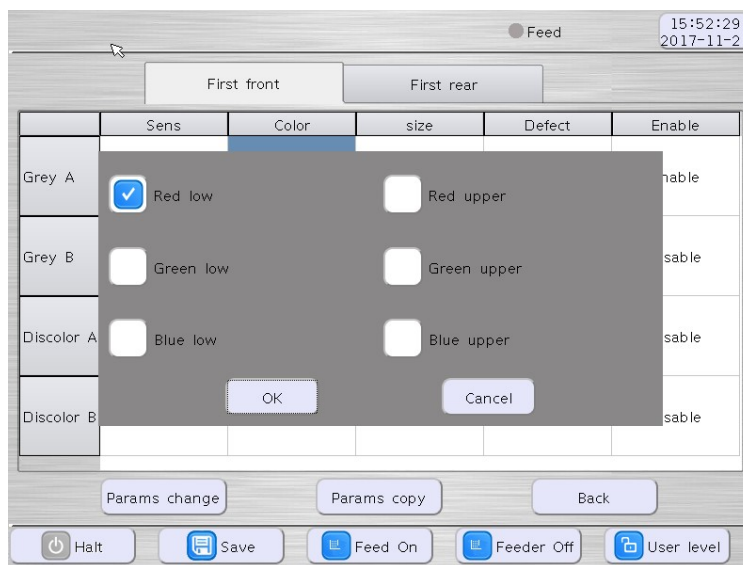

Figure 10-1
- 2) There are 10 sorting functions under the icon of “Set Sens”. In Figure 10-1, you see the sorting approaches of “Grey A”, “Grey B”, “Discolor A”, “Discolor B”. If you click “Params change” button on the page, you will see options of “expand 1”, “expand 2”, “expand 3” and “expand 4” and if click “Params change” one more time, you will see “Tri color 1” and “Tri color 2”. While “Grey A” and “Grey B” are sorting methods based on the intensity of one primary color in visible color space of R(red) G(green) B(blue), “Discolor A” and “Discolor B” are based on the ratio of two primary colors. We do not recommend operator or engineer to use “expand 1” to “expand 4”. The details of using “Tri color 1” and “Tri color 2” will be given in another section. In Figure 10- 10-2, only “Grey A” is “enabled” after you click on “disable”.
- 3) To use “Grey A”, in the row for “Grey A”, press text “Disable” in the “Enable” column and the text “Disable” will toggle to “Enable”, which means “Grey A” detection for both front and rear camera is enabled. Then you can click the “Color” in the “Grey A” row, to select the primary color for sorting, such as “Red low”, “Red high” etc. as shown in Figure 10-1. After that, you can define the “Size” and “Defect” and “Sens” for “Grey A”. Sensitivity, size and defect settings together determine if an individual piece of material is good or bad. Once all the settings for “Grey A” is defined, you can press “Back” button and do the test of the settings. Please contact the technical support if you have any questions.